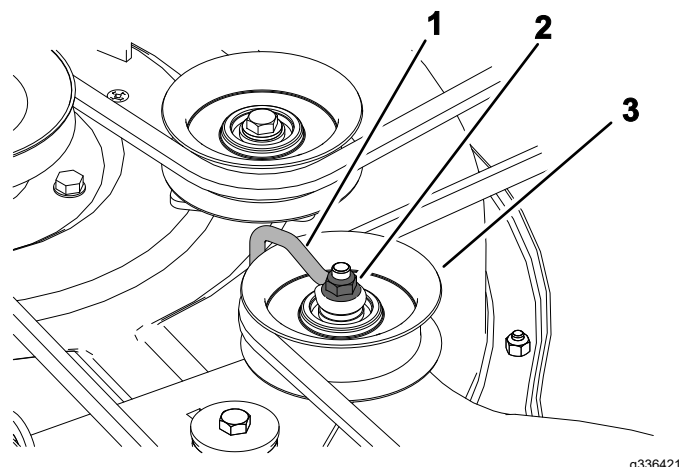

Figure 48
2. Screw (3)
5. Loosen the nut securing the wire form to the idler pulley (Figure 48).
Note: Position the wire form against the idler arm as shown in Figure 48.